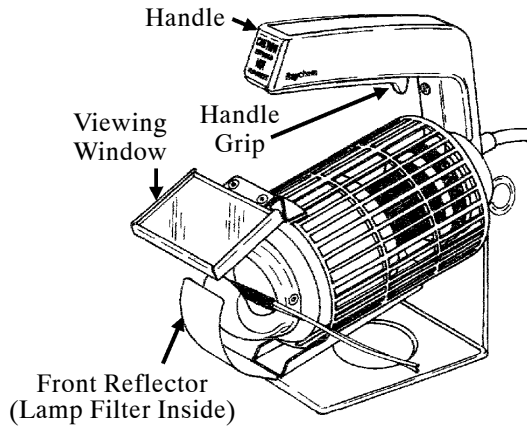

Figure 5. Radiant Heating Tool, IR-500
13 . Radiant heating tool, IR-500 (Figure 5), is a portable lightweight electric heating tool designed for fast and reliable installation of heat-shrinkable products. It can be used as a hand tool or as a bench tool and operated with a foot switch. The ellipsoidal reflector focuses the heat produced by halogen quartz lamp into the heating zone in front of the unit. Lamp is optically filtered to eliminate glare which allows the operator to observe the heating process, minimizing faulty installation and thereby assuring a quality finished product (Table 2).
14 . **PRE-OPERATION.** Prior to using radiant heating tool (Figure 5), proceed as follows:
16. **OPERATION.** To operate radiant heating tool (Figure 5), proceed as follows:
17. **POST-OPERATION.** After using radiant heating tool (Figure 5), proceed as follows: